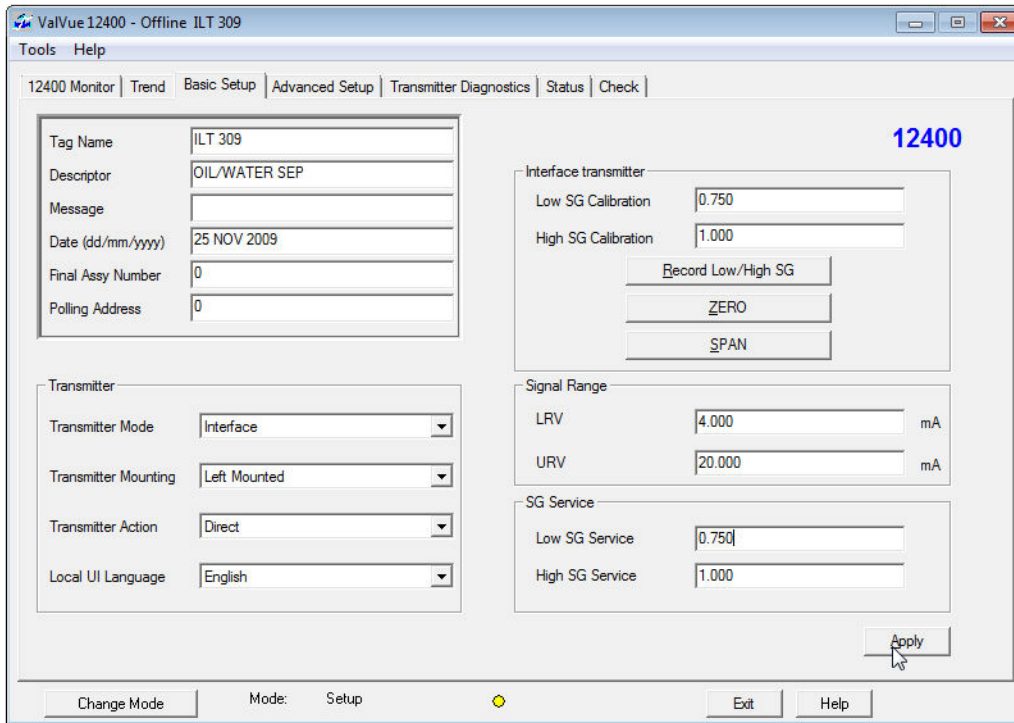

Figure 159 Saving SG Service
2. Click **Apply** (Figure 159).